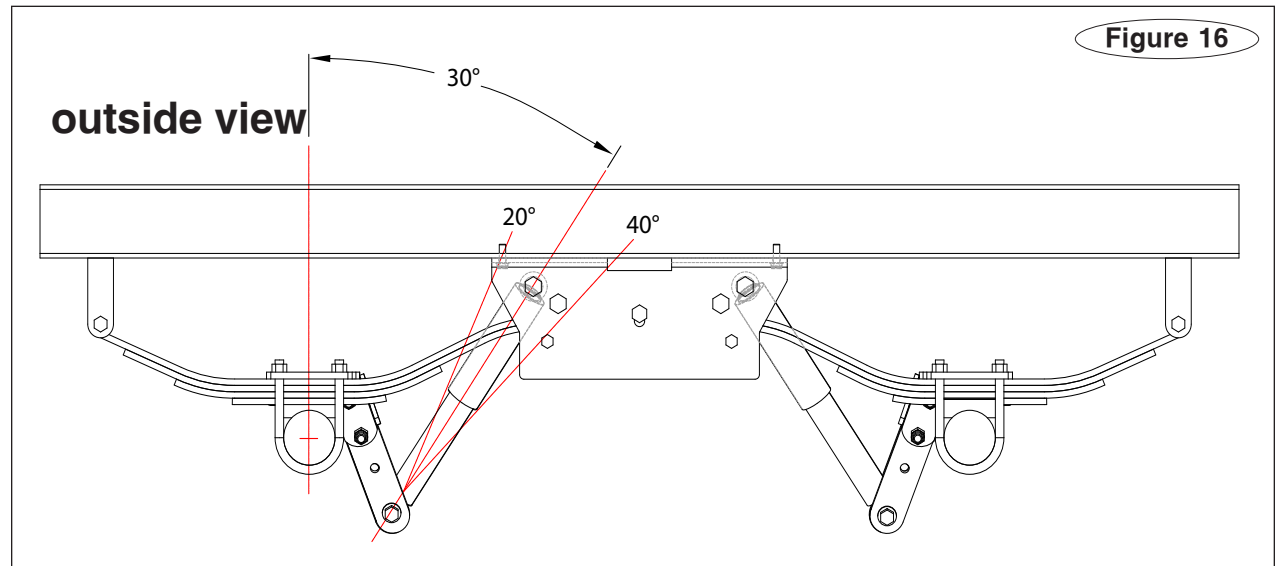

Figure 16
I. The final mounting location must be between 20 and 40 degrees (Figure 16).